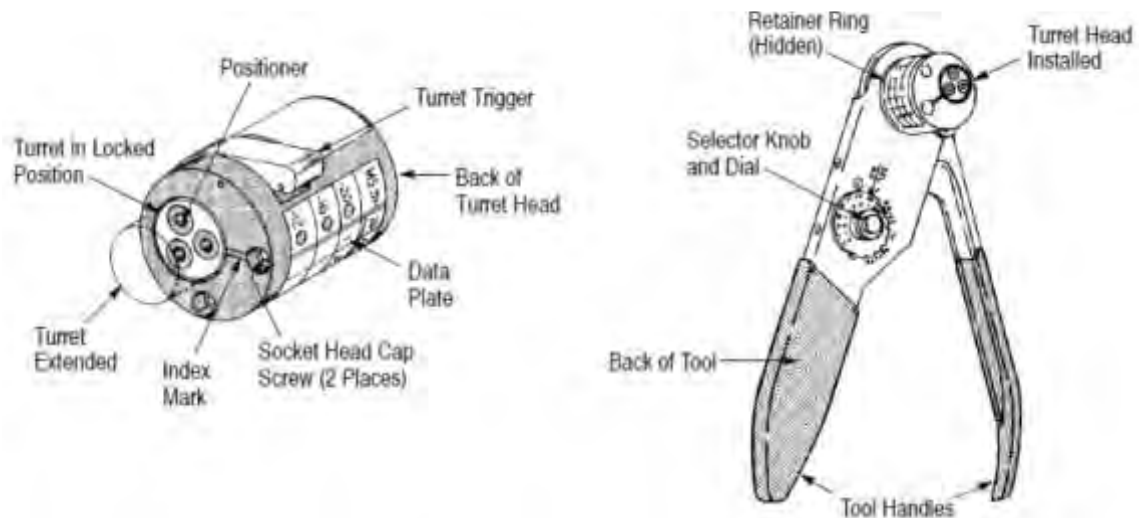

Figure 9
- (11) If the die opening conforms to the gage inspection, the tool may be considered dimensionally correct and can be used.
- (12) If the die opening does NOT conform to the gage inspection, the tool must not be used.
- (13) Select contact locator positioner from Tooling table in beginning of this section and install to crimp tool as follows:
a. M22520/1-01 (Figure 9)
- (1) Depress the turret trigger to release the turret from the index position (the turret should be extended).
- (2) Place the back of the turret head over the retainer ring on the back of the tool. Make sure that the turret head is seated, then tighten the two socket head cap screws of the turret head.
- (3) Rotate the turret until the positioner marked with the desired contact size is aligned with the index mark.
- (4) Press the turret until it is in the locked position.